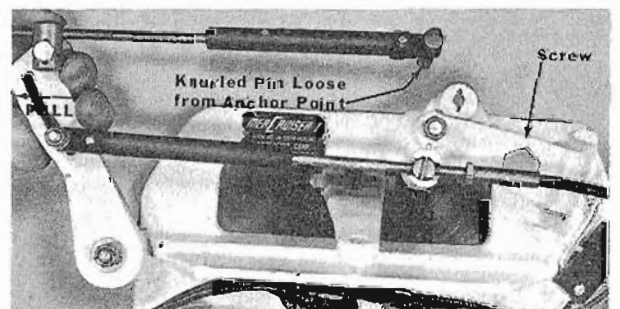

Figure 4. Shifting into Reverse Gear
*NOTE: To avoid pre-loading shift cable when making cable adjustments, it will be necessary to lock "out" shift cutout switch lever for correct attachment of shift cable. Place plain washer (C-12-22753) between shift cutout switch lever & inner transom plate. Place screw (C-10-25299) (5/16-18x3/4") and lockwasher (C-13-26993) thru hole in shift cutout switch lever (Figure 4) & tighten into inner transom plate.*
- g. Manually move shift lever to left (when viewing lever from inside boat) as far as it will go. (Figure 4)